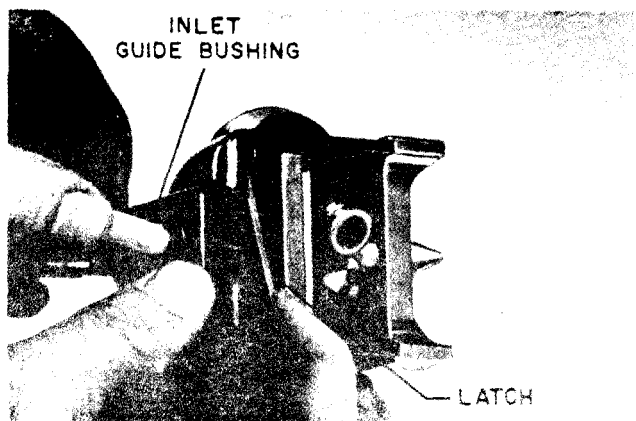

Figure 11, Installing Inlet Guide Bushing
e. Lift casing catch and install inlet guide bushing in bottom hole of drive roll housing (Fig. 11). Release catch.